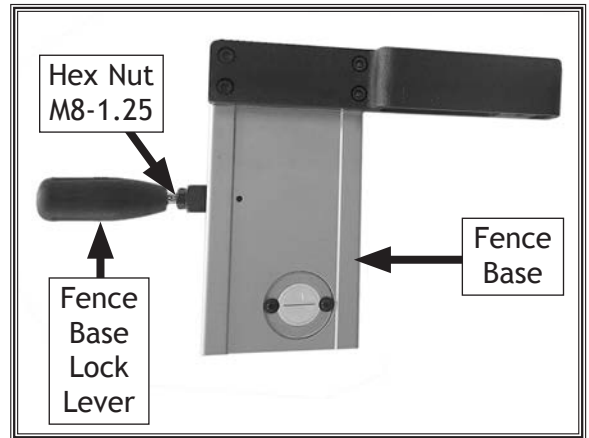

Figure 26. Fence base lock lever installed.
- Thread (1) M8-1.25 hex nut onto fence base lock lever, install lock lever onto fence base, then tighten hex nut to secure (see **Figure 26**).